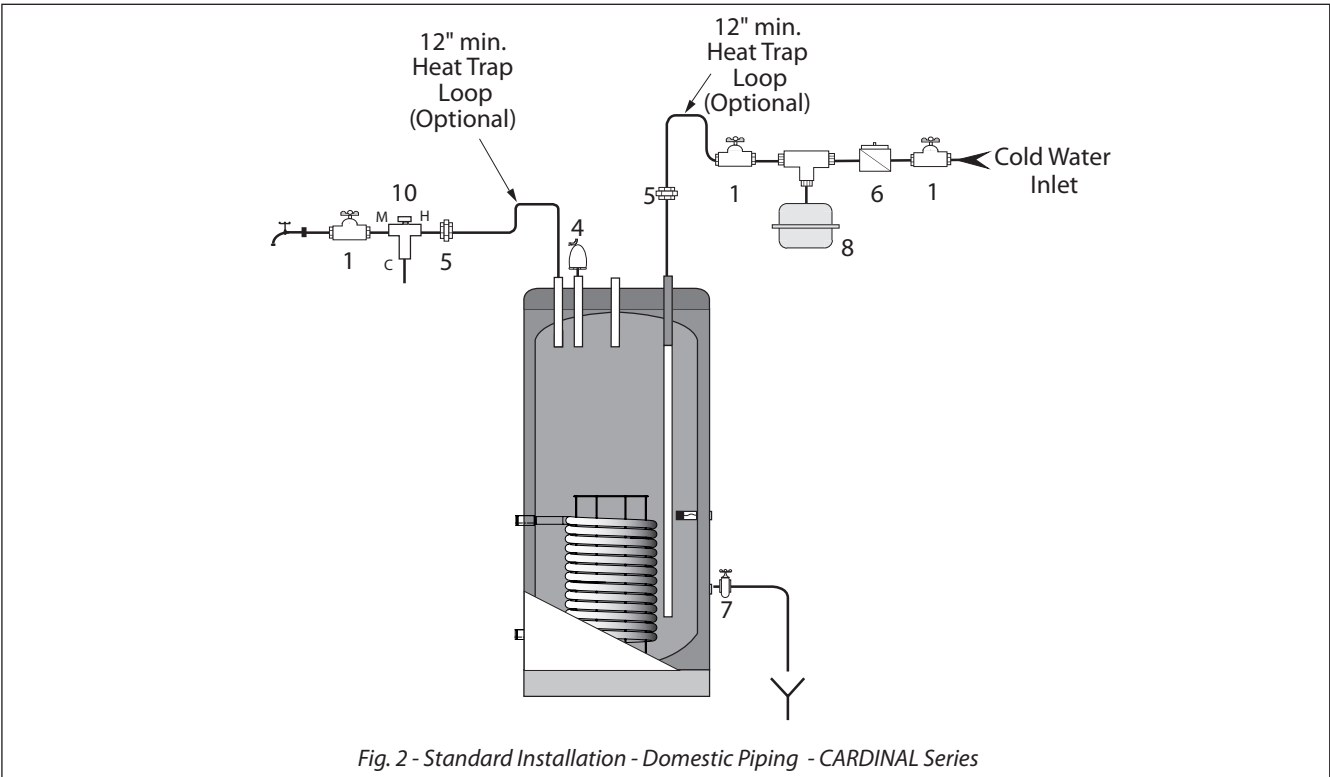
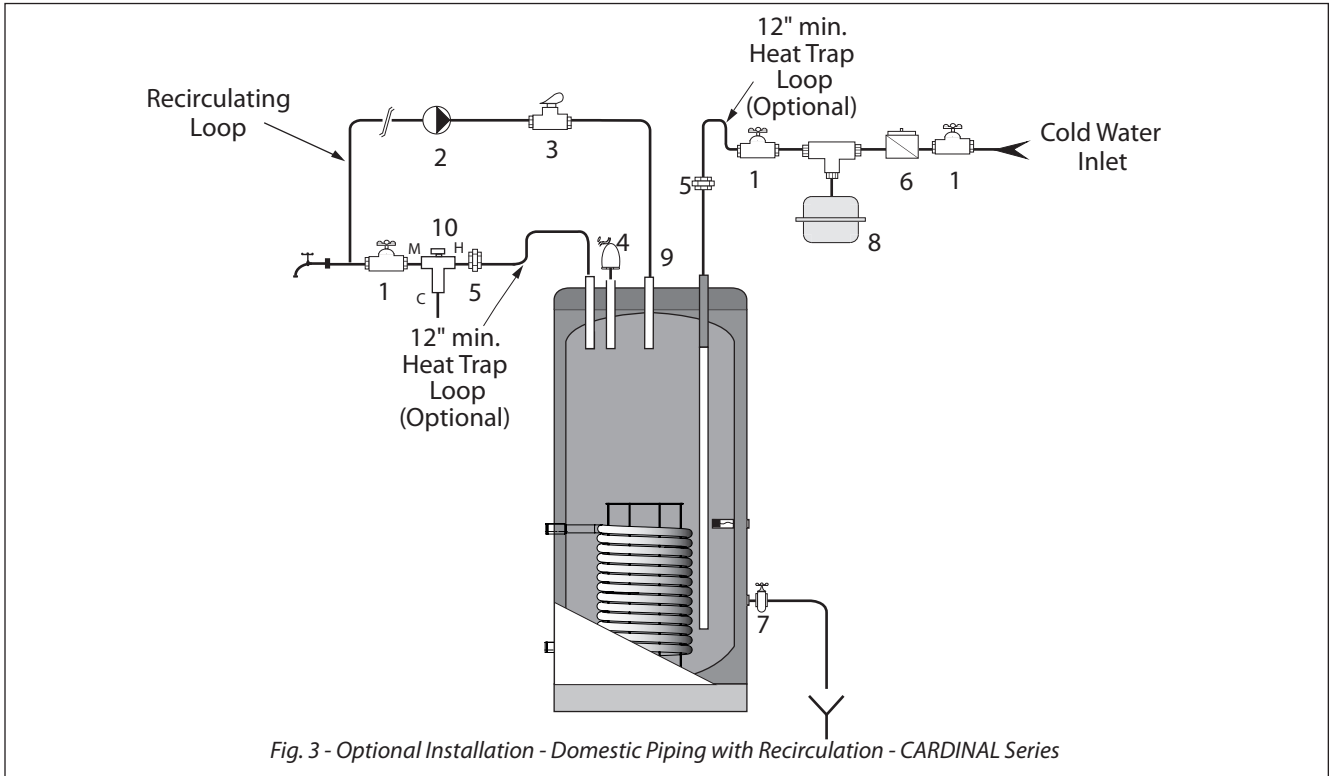

Fig. 2 - Standard Installation - Domestic Piping - CARDINAL Series
Fig. 3 - Optional Installation - Domestic Piping with Recirculation - CARDINAL Series
- Install T&P relief valve in the **Temperature and Pressure Relief Valve** connection on the top of the water heater (Refer to *Fig. 2 on page 9*).
- Install drain valve on drain connection (Refer to *Fig. 2 on page 9*).
- For domestic water piping diagram, refer to *Fig. 2 on page 9 and Fig. 3 on page 9*.